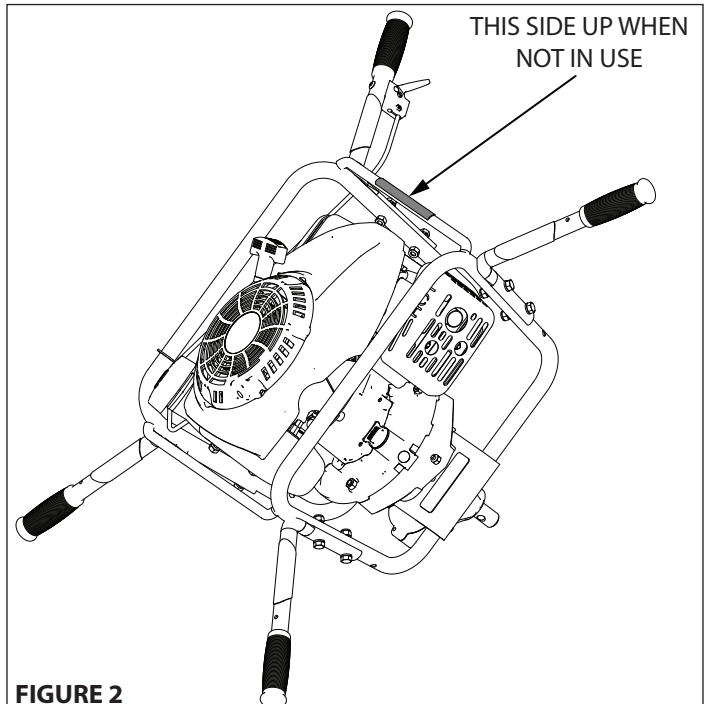

FIGURE 2
6. When transporting your powerhead, make sure you position the unit according to the "This Side Up When Not In Use decal" **SEE FIGURE 2**
3. Remove spark plug, pour one (1) fl-oz of clean engine oil into spark plug hole. Cover hole with a rag. Pull starter handle slowly several times to distribute oil. Install spark plug. **DO NOT CONNECT SPARK PLUG WIRE.**
6. Store powerhead in storage position in a clean, dry building that is inaccessible to children. **SEE FIGURE 2**